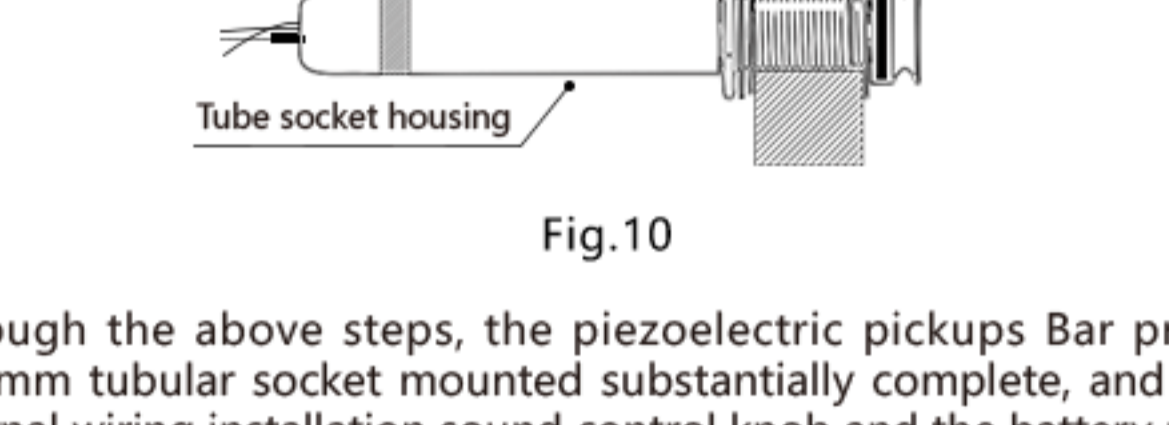

Fig.9
5. Install 6.35mm tailpipe by traction. First use a lead to drill through the hole drilled at the tail of the guitar, and exit from the sound hole. The head and tail pipe will automatically fall into the 12mm borehole and pass through the tail of the guitar to expose the head. The operation diagram is shown in Figure 9.